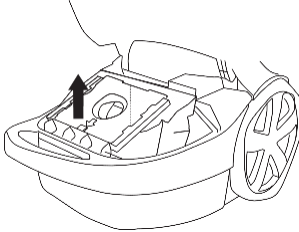
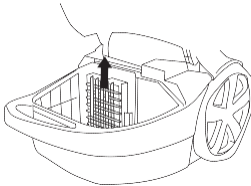

Figure 11 Changing the dust bag
Figure 12 Removing the motor safety filter
1. Change the dust bag immediately once the 'dust bag full' indicator turns red, see Figure 11.
3. Open the cover by pulling the cover release (dust bag) upwards. Remove the dust bag, see Figure 11. Remove the motor safety filter holder, located behind the dust bag; see Figure 12.